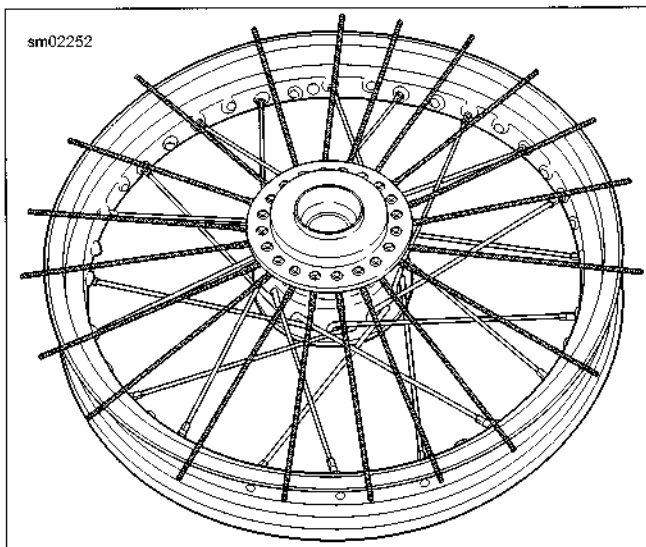

Figure 2-34. Fanning Top Flange Spokes
13. Beginning with 4th hole counterclockwise (2) from valve stem hole, install lower flange inner spokes (long head) in every 4th hole. Loosely install spoke nipples. Each inner spoke will cross four outer spokes.
14. See Figure 2-34. Carefully release each top bundle and fan the spokes around the rim edge.